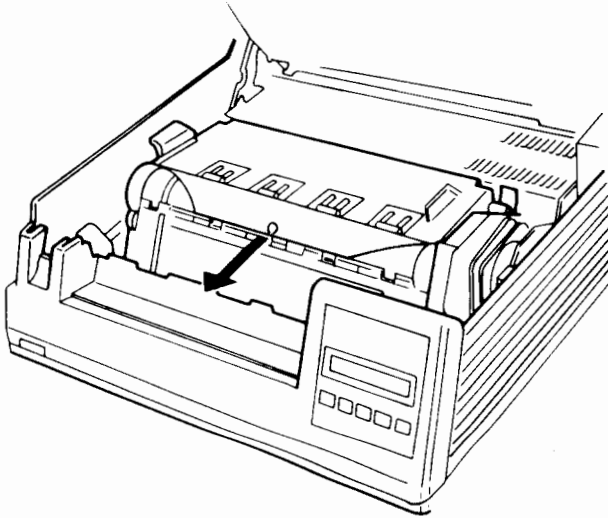

Figure 7-15 Removing the protective sheets
4. The drum is protected by two clear plastic sheets, which must now be removed. Simply pull on them one at a time to remove them. The first sheet has a finger hole for easy gripping (see Figure 7-15); the second sheet may require a firm tug to remove it completely.